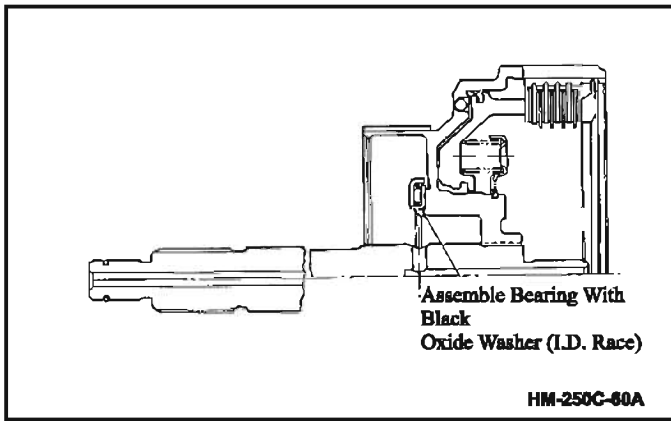

Figure 55 Needle Bearing Assembly
4. Remove direct clutch drum to forward clutch housing needle roller bearing. *See Figure 55.*